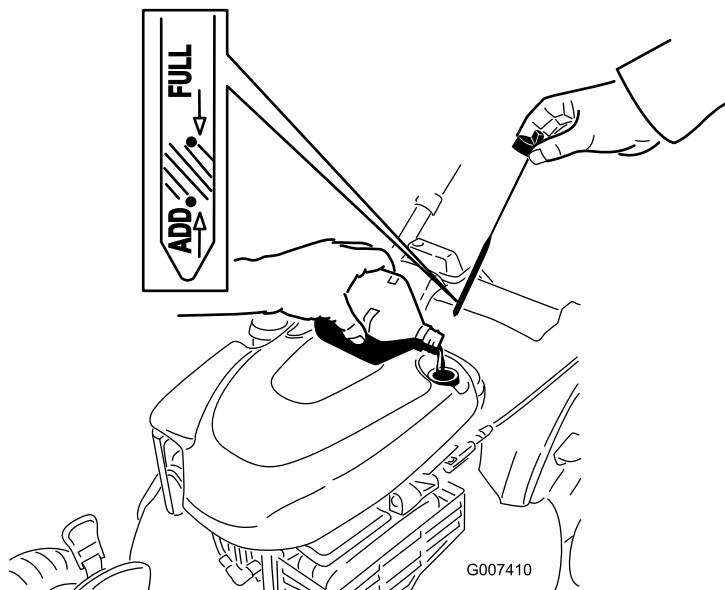

Figure 5
2. Remove the dipstick (Figure 5) and pour about 3/4 of the crankcase capacity of oil into the oil-fill tube.
5. Remove the dipstick and read the oil level on the dipstick; refer to Figure 5.
- If the oil level is too low, add a small amount of oil slowly to the oil-fill tube, and then repeat steps 3 through 5 until the oil level is correct as shown in Figure 5.